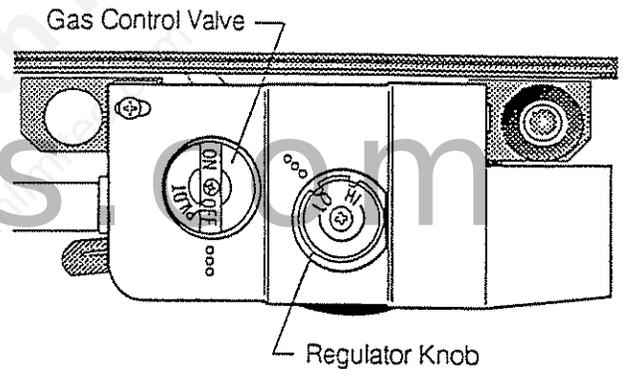

Figure 1. The Control Valve and variable Regulator.
The burner Control Valve on this appliance has been equipped with a variable regulator that allows the operator to adjust the gas input rate between 24,000 btu/hr, (LO) and 30,000 btu/hr, (HI). This new feature provides an additional level of user control over the heat output and fuel consumption of the appliance. See Fig. 1.